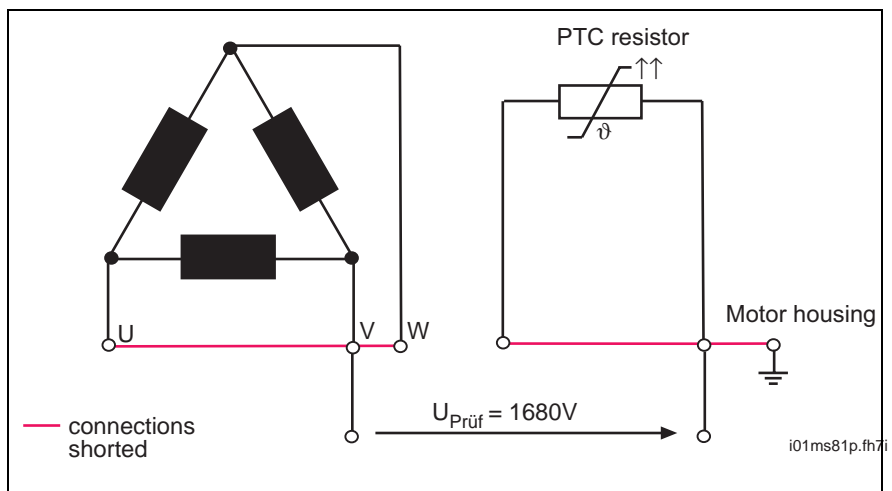

Fig. 8-30: High voltage test (circuit)
- ⇒ The PTC resistor must be shorted and connected to the housing, see Fig. 8-30: .